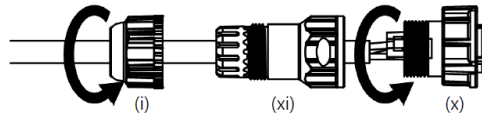

Figure 68: Step 5
- Screw the sealing nut (i) and the assembled housing (x) onto the assembled sealing body (xi) with a torque force of 8–10 kgf-cm (Figure 68).